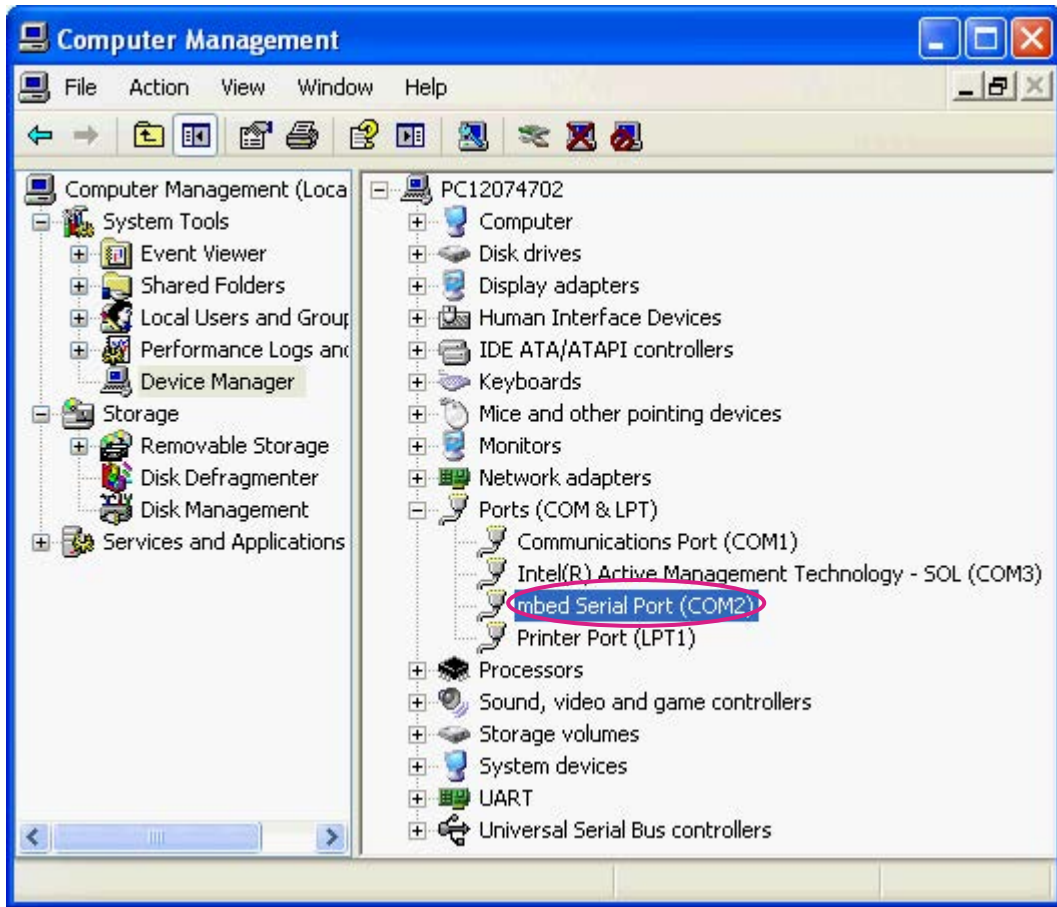

Figure 4. Device COM port for debugging on your PC
- 4) In **Device Manager**, navigate to **Ports (COM & LPT)** (see Figure 4).
A new COM device should appear under **Ports (COM & LPT)**, as shown in Figure 4. Note the COMx port number of the **mbed Serial Port**. Use this port to send and receive data to and from the LinkIt 2523 HDK.